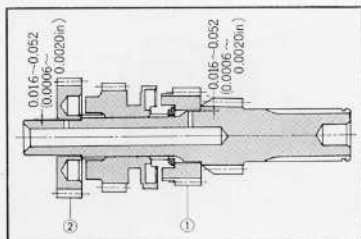

Fig. 3. 99 Main shaft to gear clearance
1. Main shaft to main shaft gear clearance (Fig. 3. 99)
① Main shaft second gear
② Main shaft top gear
2. Counter shaft to counter shaft gear clearance (Fig. 3. 100)